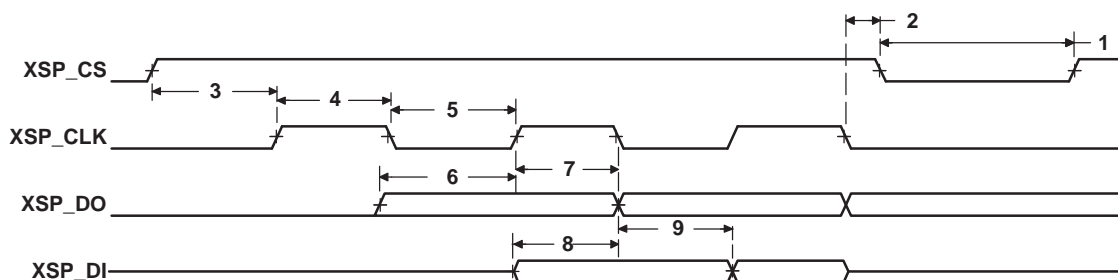

Figure 5-39. PCI Serial EEPROM Interface Timing
5.11.5 Timing Requirements for Serial EEPROM Interface (see Figure 5-39)